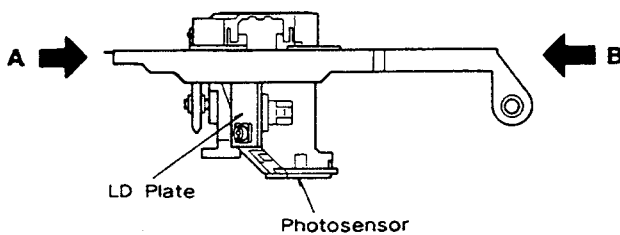

Fig.4-1
- (1) Do not apply shocks to the assembly.
- (2) Do not touch the object lens.
- (3) Do not place the assembly in a place subject to excessive dust, heat or moisture.
- (4) Do not disassemble.
- (5) During the transportation, mounting and dismounting of the assembly, support it with your fingers at points A and B as shown in Fig. 4-1. Be particularly careful not to touch the actuator, the photosensor and the LD plate, and do not apply force to them.
- (1) 落下, 衝撃を加えない.
- (2) 対物レンズには手を触れない.
- (3) ゴミ・埃の発生する場所, 高温・多湿の場所を避ける.
- (4) 分解はしない.
- (5) 持ち運び, 取り付け, 取り外しの際は, Fig.4-1のAとB部で支えてください.